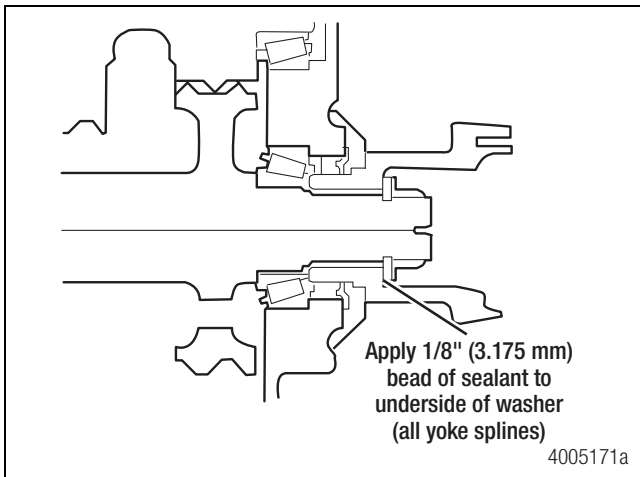

Figure 7.25
8. Before installing the yoke, clean the splines of old silastic. Apply a 1/8" (3.175 mm) bead of RTV 732 sealant 360 degrees around the underside of the washer. Figure 7.25.